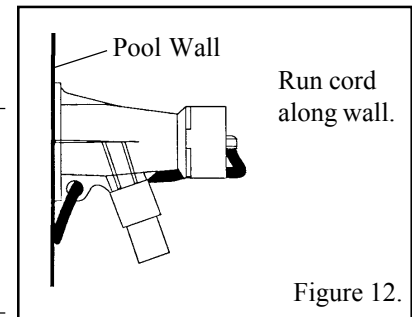

Figure 12.
4. Route cord through the cord hole in the body; see Figure 12.